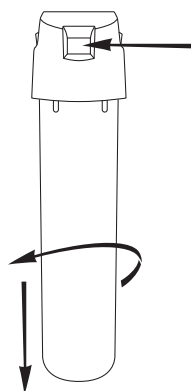

Fig. 2
- Press and hold the locking button, turn the cartridge counterclockwise and then remove it (fig. 2).